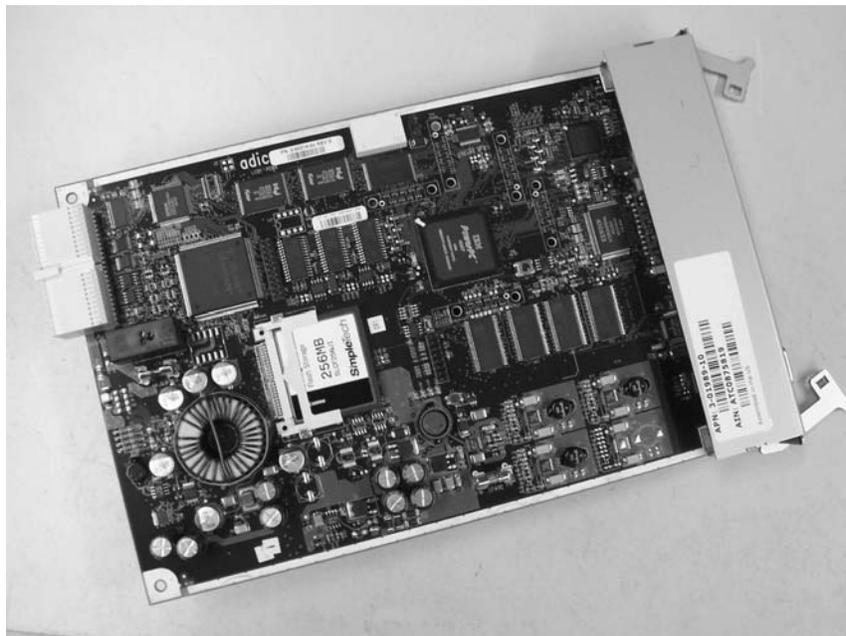

Figure 8-28. Library Control Blade (LCB)
5. Once the LCB has been removed from the control module, carefully lay it (Figure 8-28) on a clean, flat surface.
**Important:** DO NOT touch any components on the LCB firmware board (see Figure 8-28). Hold it by the metal cover and support it by the metal ground plane only.
2. Locate the empty LCB slot on the rear panel of the control module (CM). Then, carefully line up the new LCB board along the guide slots, and gently slide it into the control module until the connector seats.